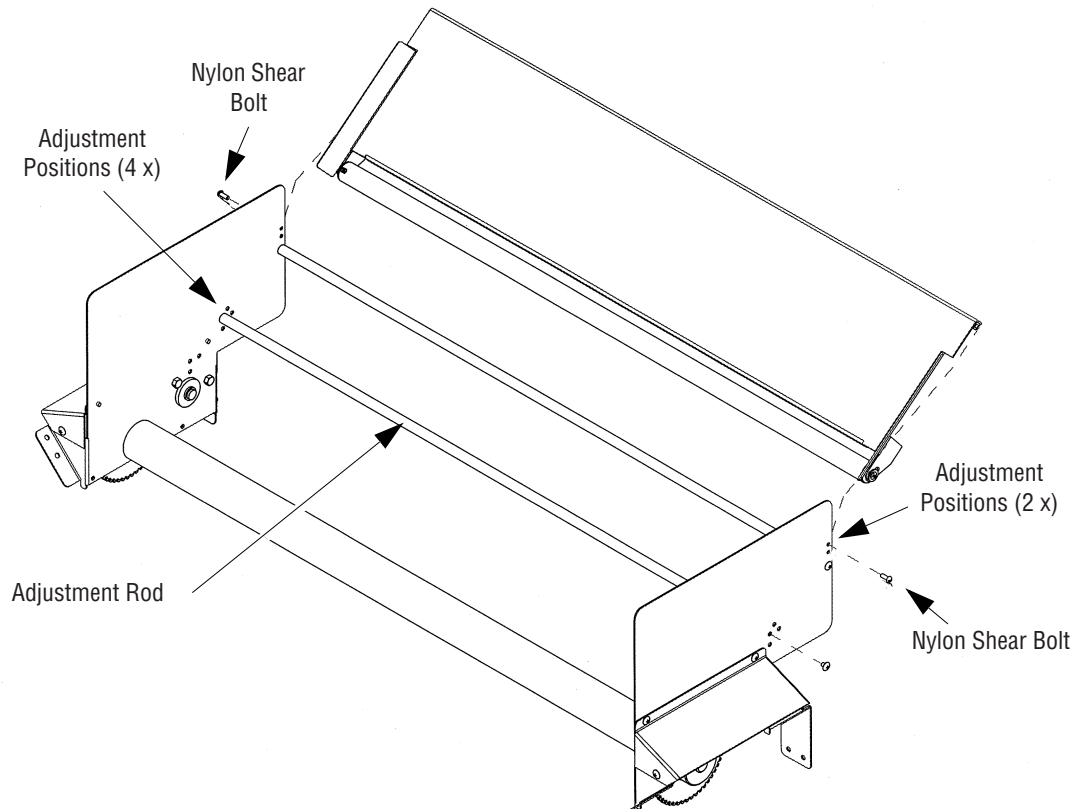

**Figure 5-1. Adjust Cage Size For Flip-Over Rotation**
See Figure 5-1.
- b. Move adjustment rod to one of the four positions available (see Figure 5-1).